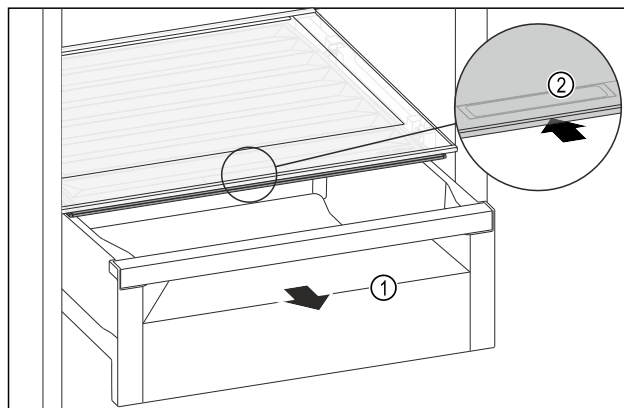

Fig. 84
- Pull out the drawer Fig. 84 (1).
- Grip the handle recess Fig. 84 (2) on the lid while pulling the lid backward at the same time.